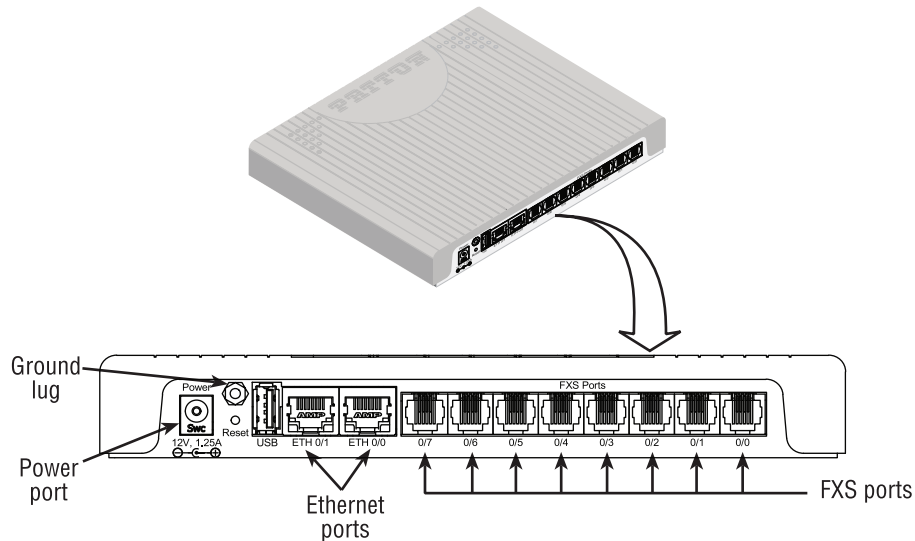
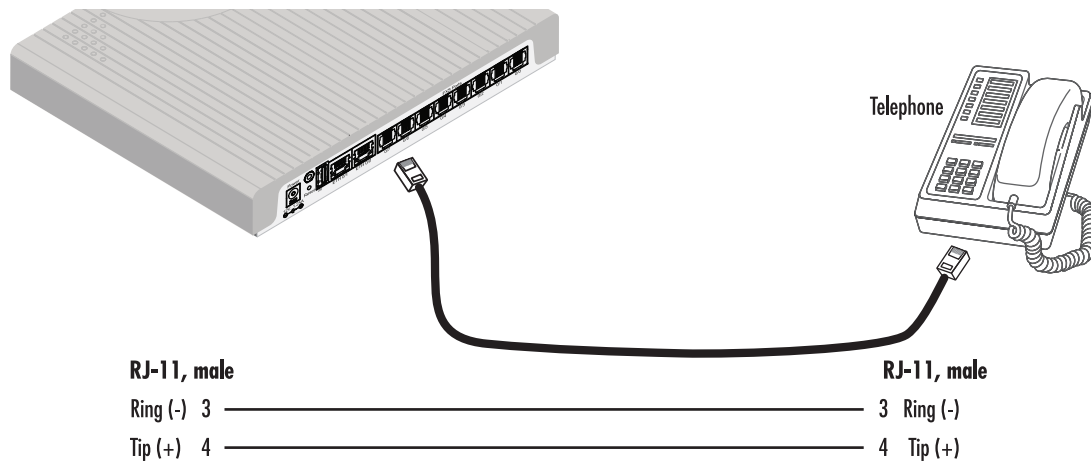

Figure 8. Rear view showing location of Ethernet and FXS connectors (SmartNode 5541 shown)
Figure 9. Analog FXS connection
According to UL60950/IEC62368, a connection to earth ground—using the ground lug at the rear of the units (see figure 8)—is required to protect against power cross.
2. Connect the grounding wire to the ground lug of the SmartNode device (see figure 8).
The SmartNode comes with at least two FXS analog ports (see figure 8 on page 30) located on the back of the device. The FXS interfaces are connected to analog devices via cables (see figure 9) terminated with RJ-11 connectors (see table 9 for pin-out information).